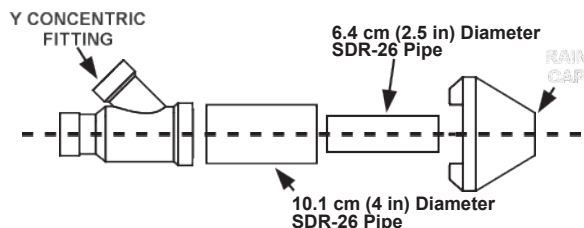

Figure 29. Concentric Termination Dimensions 2" Vent Pipe
A. Cement the Y concentric fitting to larger diameter kit pipe, see **Figure 29** (page 33).
B. Cement the rain cap to the smaller diameter kit pipe. See **Figure 29** (page 33).